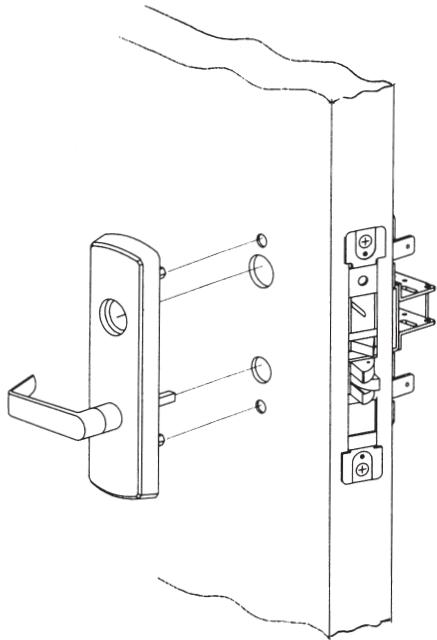

Figure 6-3
3. Install the outside trim with mounting posts through the door and position spindle into the hub of the lock case (see Figure 6-3).